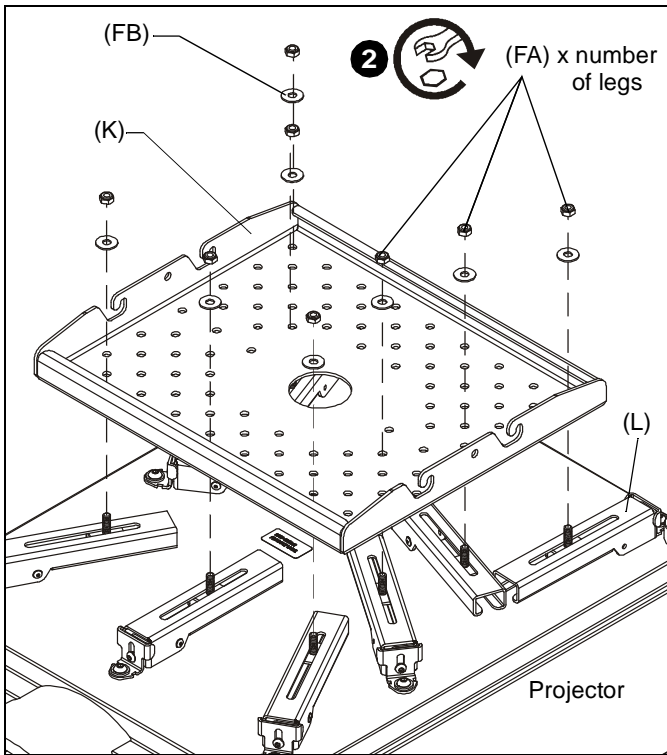

Figure 3
- Lower HB plate (K) onto legs and fasten using one 5/16" lock nut (FA) and one 5/16" flat washer (FB) on each HBU leg (L). (See Figure 3)